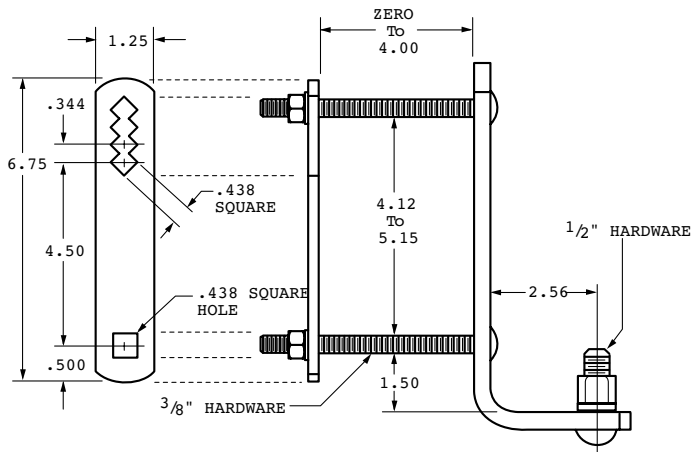
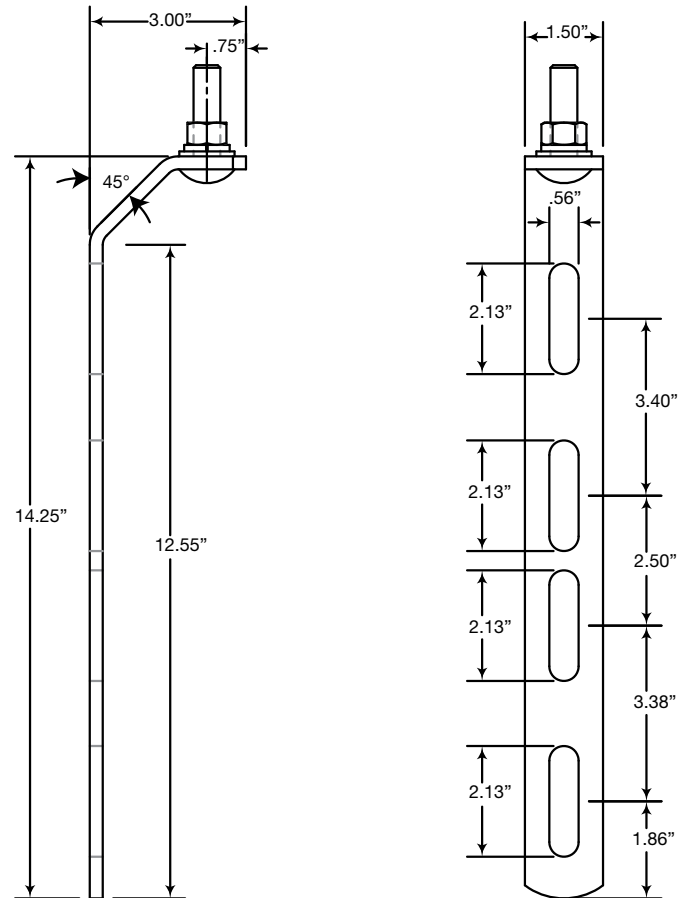

Figure 11. NEMA cross-arm bracket (catalog number AM35A1), can be specified with a "B" in digit 13 (all dimensions in inches)
Figure 13. Standard transformer mounting bracket for 27-36 kV arrester (part number AH46A2), can be specified with a "C" in digit 13 (all dimensions in inches)
Refer to **Figure 10** and **Figure 11** for dimensional information.
**E9** = Ground terminal wildlife guard, insulated hanger (shown with optional isolator), transformer bracket. Reference **Figure 11—Figure 13** for dimensions including brackets by rating.